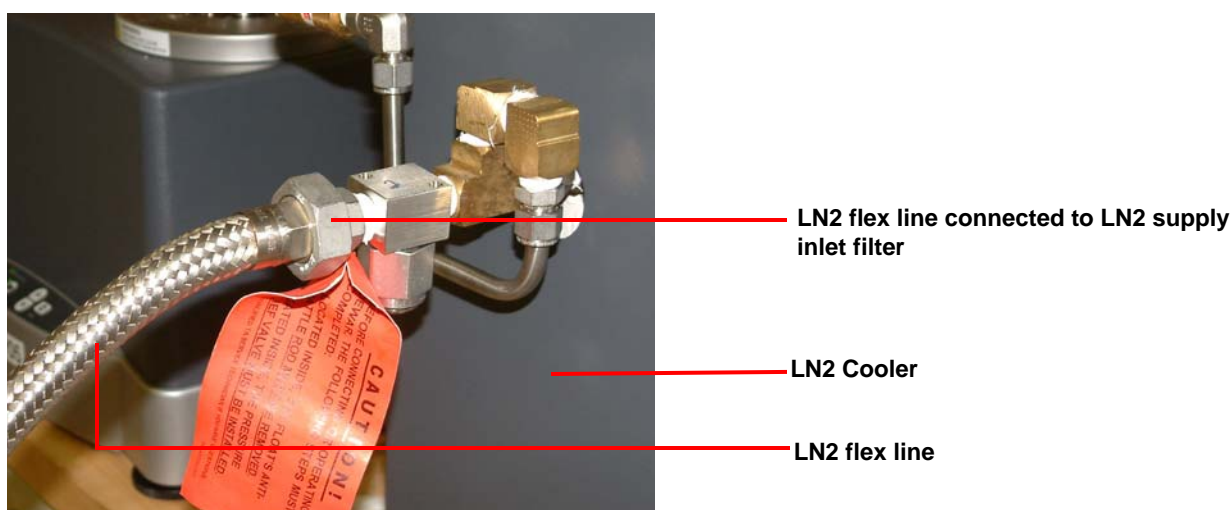

Figure 4 LN2 flex line and Cooler connection.
- 1 Connect one end of the LN2 flex line to the LN2 Cooler supply inlet filter connection (location shown below in Figure 4) and the other end to a liquid nitrogen supply source (bulk tank).